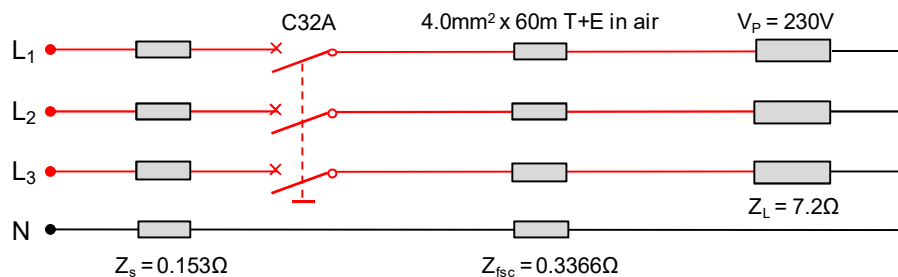

figure 1.
Figure 1 shows a normal healthy circuit. The current is limited by the impedance of the load. Under normal conditions the impedance of the cable is so low it is considered negligible. The current in the cable is calculated using ohms law. As the circuit is a balanced three phase load no current flows in the neutral. The current rating of the cable is 32A (I_Z).
1. Calculate the Line current (I_L) for the circuit shown in figure 1.